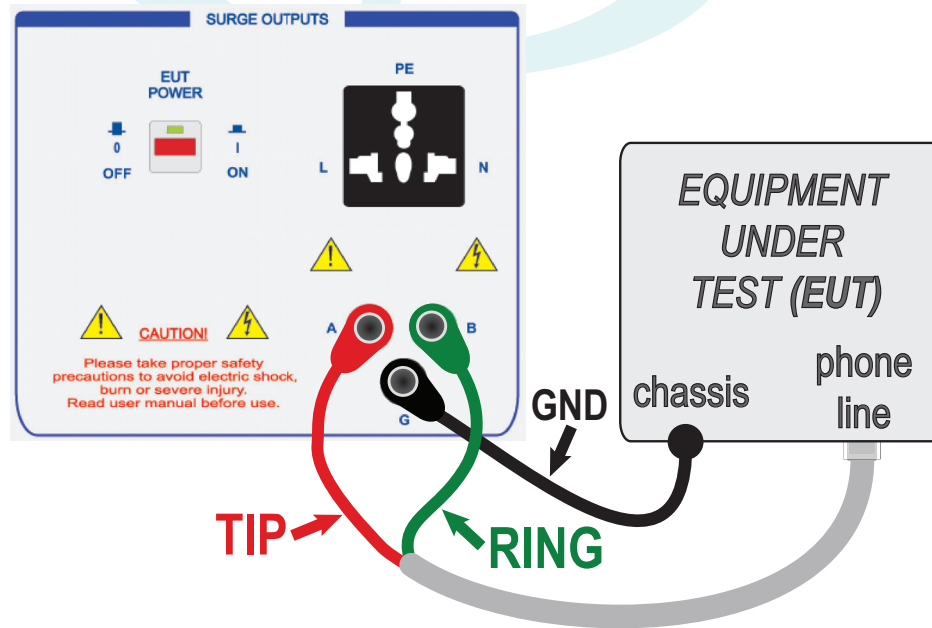

FIGURE 8 - Coupling Example for Type A – 800V (metallic) Surge
Ideally, EUT lines under test should be fitted with 4mm safety socket connectors, and connected directly to the appropriate SGTEL-168 (A/B/G) output terminals as illustrated for each respective surge waveform in Figures 8, 9, 10, 11 and 12.
The SGTEL-168 applies this surge between Terminals (A) and (B). Therefore, the EUT lines to be tested should be connected to these terminals for this surge, as shown in Figure 8.